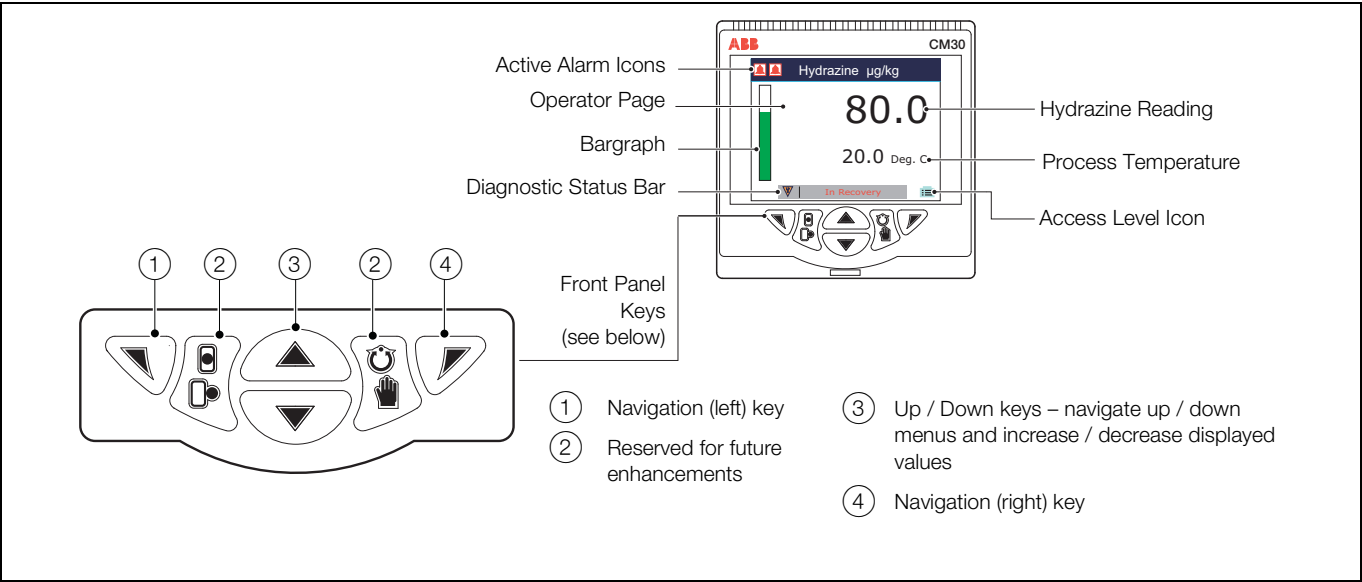

Fig. 6.1 Operator Page and Keys
The Operator page, icons and front panel keys are shown in Fig. 6.1:
- 1. From the *Operator* page (see Fig. 6.1), press